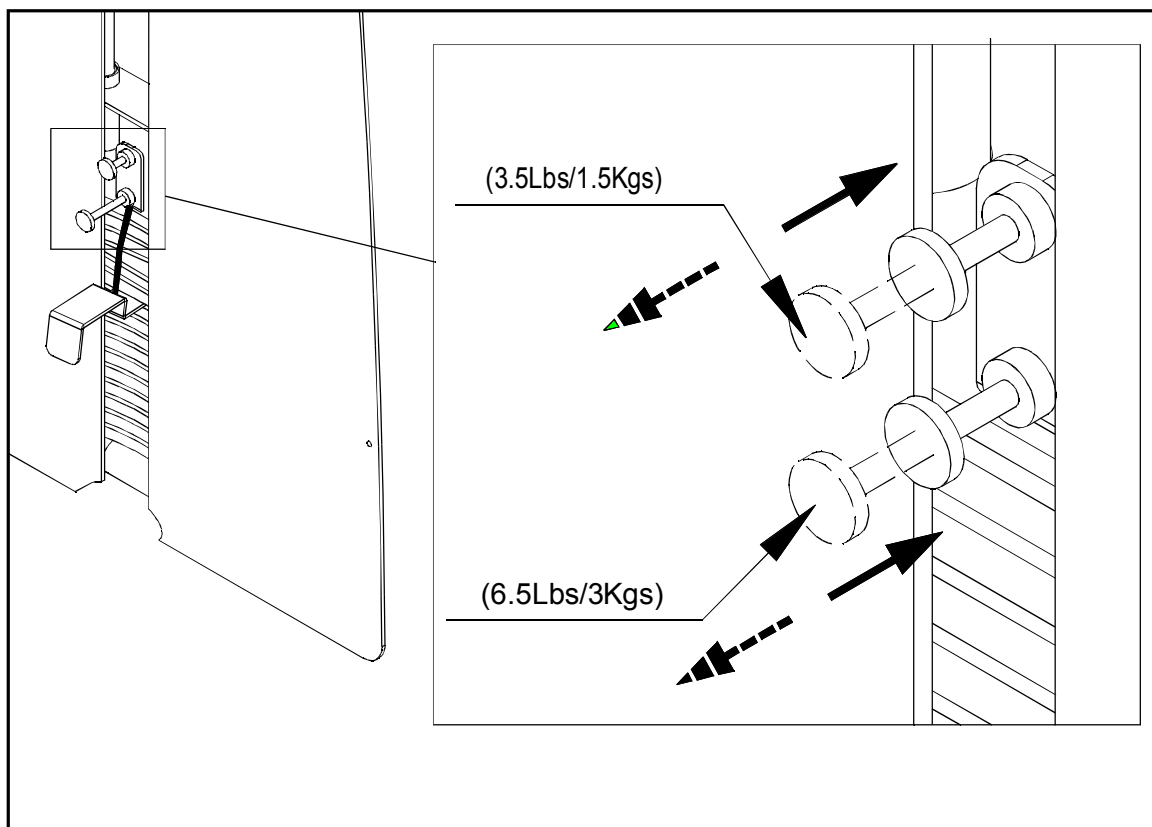

Fig.2
2. Pull the pin to release the weight. (See fig.2)